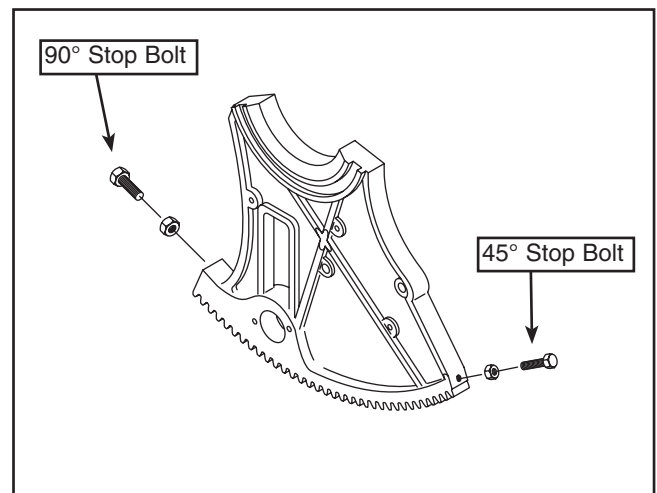

Figure 22. Geared trunnion.
3. Adjust the handwheel until the square is flush with the blade. Loosen the tilt indicator arrow, set to zero, and retighten. Loosen and adjust the stop bolt on the left side of the front trunnion to allow a 90° stop point. See **Figure 22** for details.